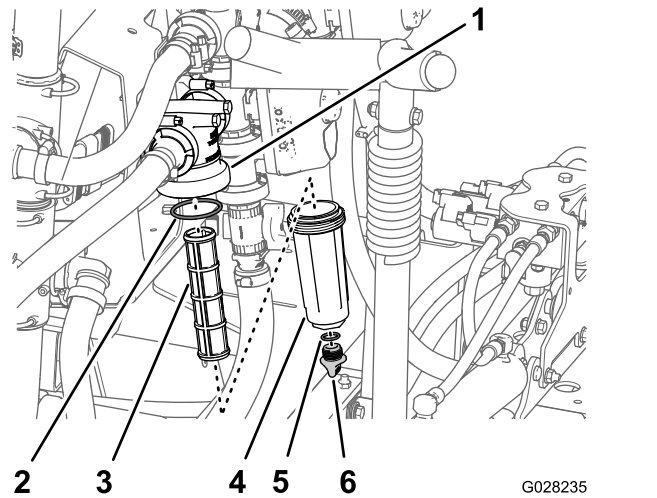

Figure 99
2. Align a drain pan under the pressure filter (Figure 99).
3. Rotate the drain plug counterclockwise and remove it from the bowl of the pressure filter (Figure 99).
4. Rotate the bowl counterclockwise and remove it from its filter head (Figure 99).
5. Remove the old pressure-filter element (Figure 99).
6. Check the O-ring for the drain plug (located inside the bowl) and the O-ring for the bowl (located inside the filter head) for damage and wear (Figure 99).
7. Install the new pressure-filter element into the filter head (Figure 99).
8. Install the bowl onto the filter head and tighten by hand (Figure 99).
9. Install the plug into the bowl and tighten by hand (Figure 99).